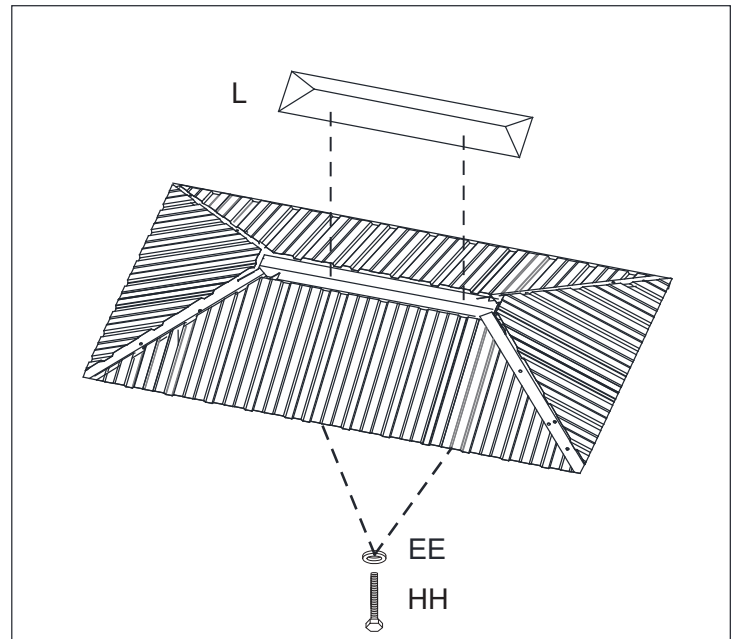
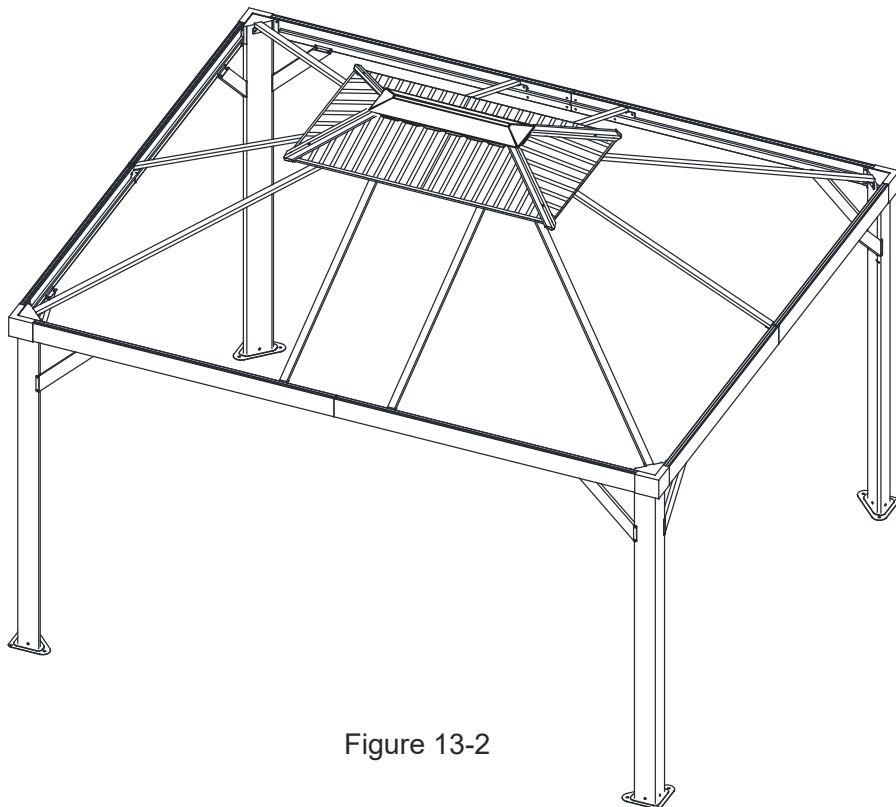

Figure 13-3
Figure 13-2
13.2: Repeat for all corners. Tighten All Bolts. See Figure 13-2.
13.3: Attach the Roof Vent Top Trim (L) to the Roof Vent Center Support (K2) using Bolts (HH) and washer (EE) .Tighten Bolts. See Figure 13-2 and Figure 13-3.